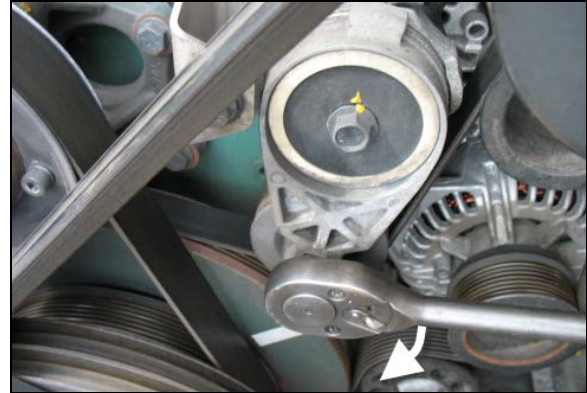
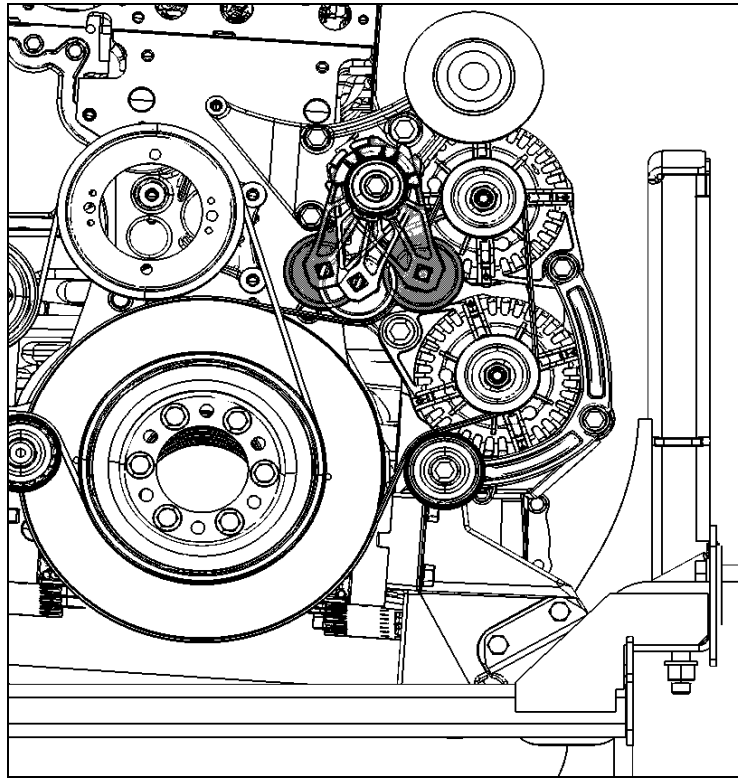

FIGURE 27: 1/2" SOCKET DRIVE WRENCH
FIGURE 28: ALTERNATOR DRIVE BELT
If the alternators needed to be removed, reinstall as follows. Refer to figure 27 for installation and to figure 28 for tightening specifications:
1. If necessary, tighten screws (6) fixing alternators support assembly onto engine (1, figure 28). Torque tighten to 43 Lb-Ft, use some Loctite 243 blue (680038) or equivalent medium thread locker onto the threads. Also tighten screw (1) fixing belt tensioner onto alternators support assembly
- (1, figure 28). Torque tighten to 43 Lb-Ft, use some Loctite 243 blue (680038) or equivalent medium thread locker onto the threads.
2. If removed, reinstall screw (1) fixing alternators support assembly onto engine (2, figure 28). Torque tighten to 22 Lb-Ft, use some Loctite 243 blue (680038) or equivalent medium thread locker onto the threads.
3. Mount the A/C compressor idler pulley onto alternators support assembly (3, figure 28). Torque tighten to 150 Lb-Ft, use some Loctite 243 blue (680038) or equivalent medium thread locker onto the threads.
4. Install alternators arched support (1) onto engine (4, figure 28), torque tighten to 43 Lb-Ft. If removed, install alternators idler pulley (1) (4, figure 28) onto alternators arched support, torque tighten to 43 Lb-Ft. Also, mount the lower alternator and upper alternator onto alternators arched support, torque tighten to 43 Lb-Ft. If removed install stone guard below lower alternator.
5. Fix lower and upper alternators to alternators support assembly using bolts (2) (5, figure 28), torque tighten to 80 Lb-Ft.
6. Mount pulleys (6, figure 28) onto alternators. Torque tighten to 58 Lb-Ft.
7. Install alternators belt (figure 27).